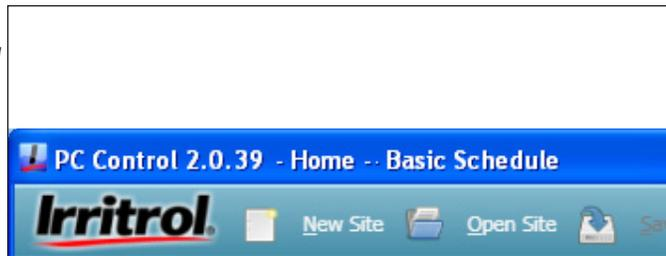

Figure 1.5
- The site and schedule name will be displayed at the top of the program window (Figure 1.5).